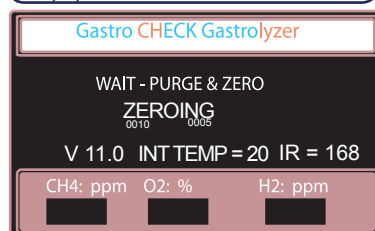

fig.9
5. The monitor will commence a purge and zero routine. This should take approximately 1-2 minutes. On completion of the zero routine, the monitor will issue a beep sound which indicates for the patient to inhale and hold their breath. The screen will then show a 15 second countdown. (fig. 9)